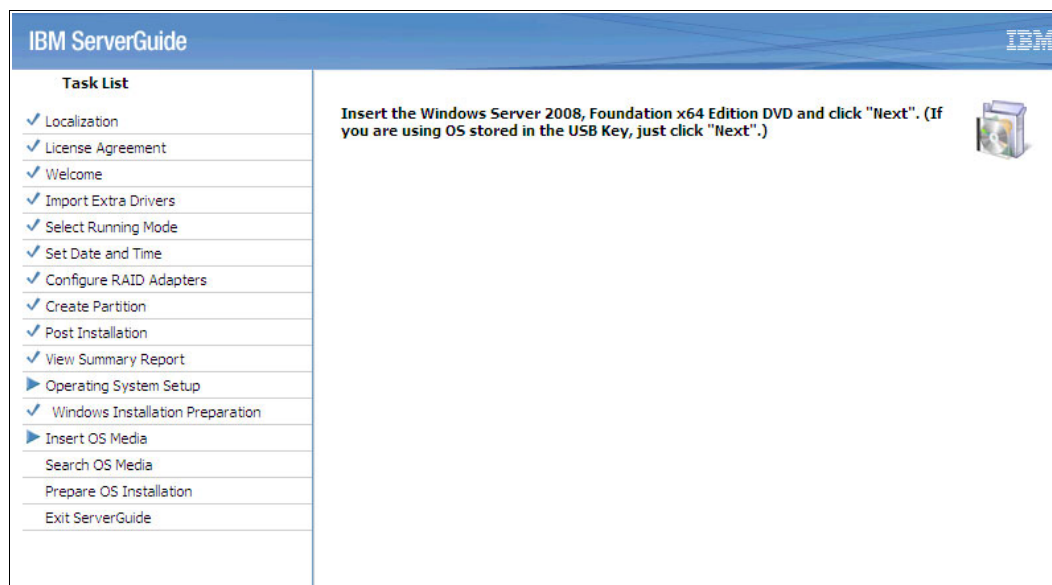

Figure 6-39 Prompt to insert the OS media
18. Mount your Microsoft Windows ISO image by using the IMM Virtual Media facility, and then click **Next**, as shown in Figure 6-39. The ServerGuide then searches for the disc.